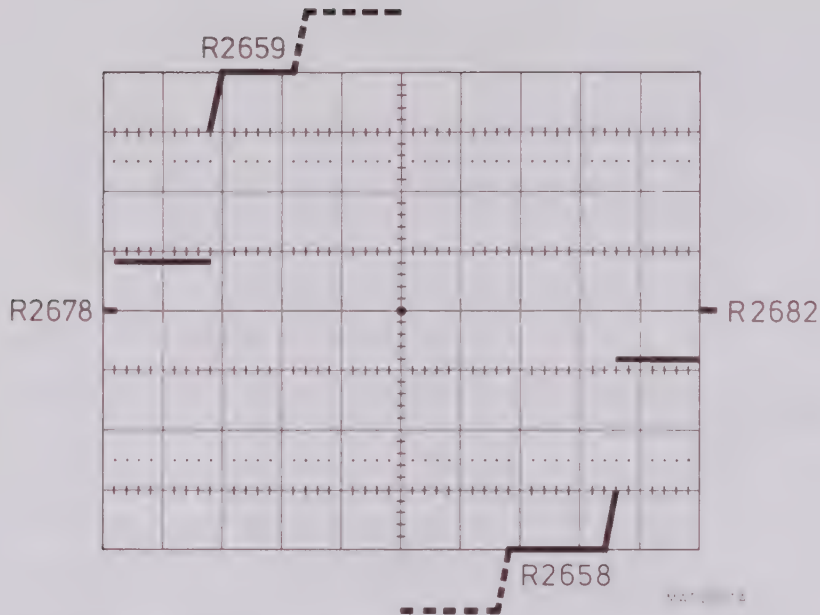

Figure 9.3 Service menu DISPLAY 7.
- Now the pattern of figure 9.3 appears.